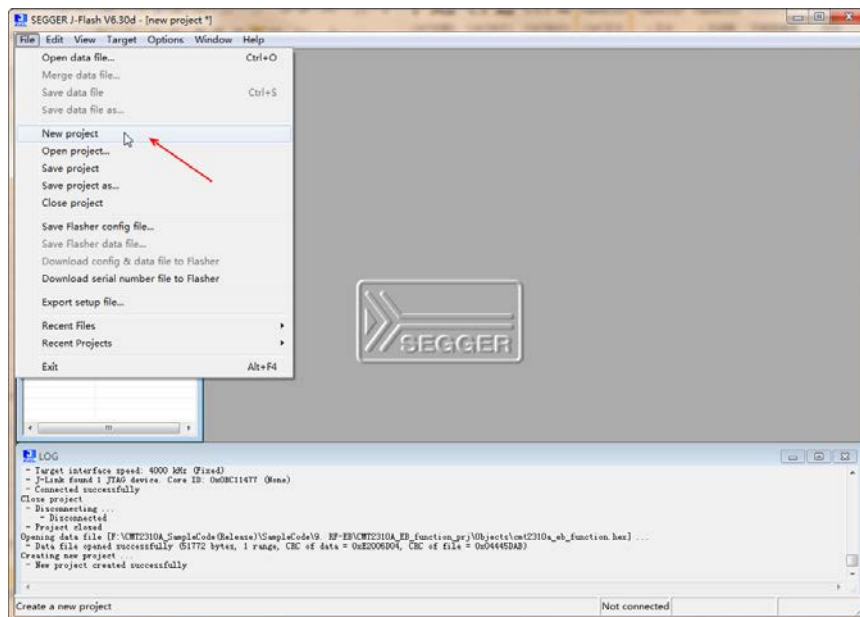

Figure 4-1. J-Flash Software Interface
1. Start the J-flash software. Take J-Flash V6.30d as an example, as shown in Figure 4-1. Click on "File" in the main menu bar and select "New Project".